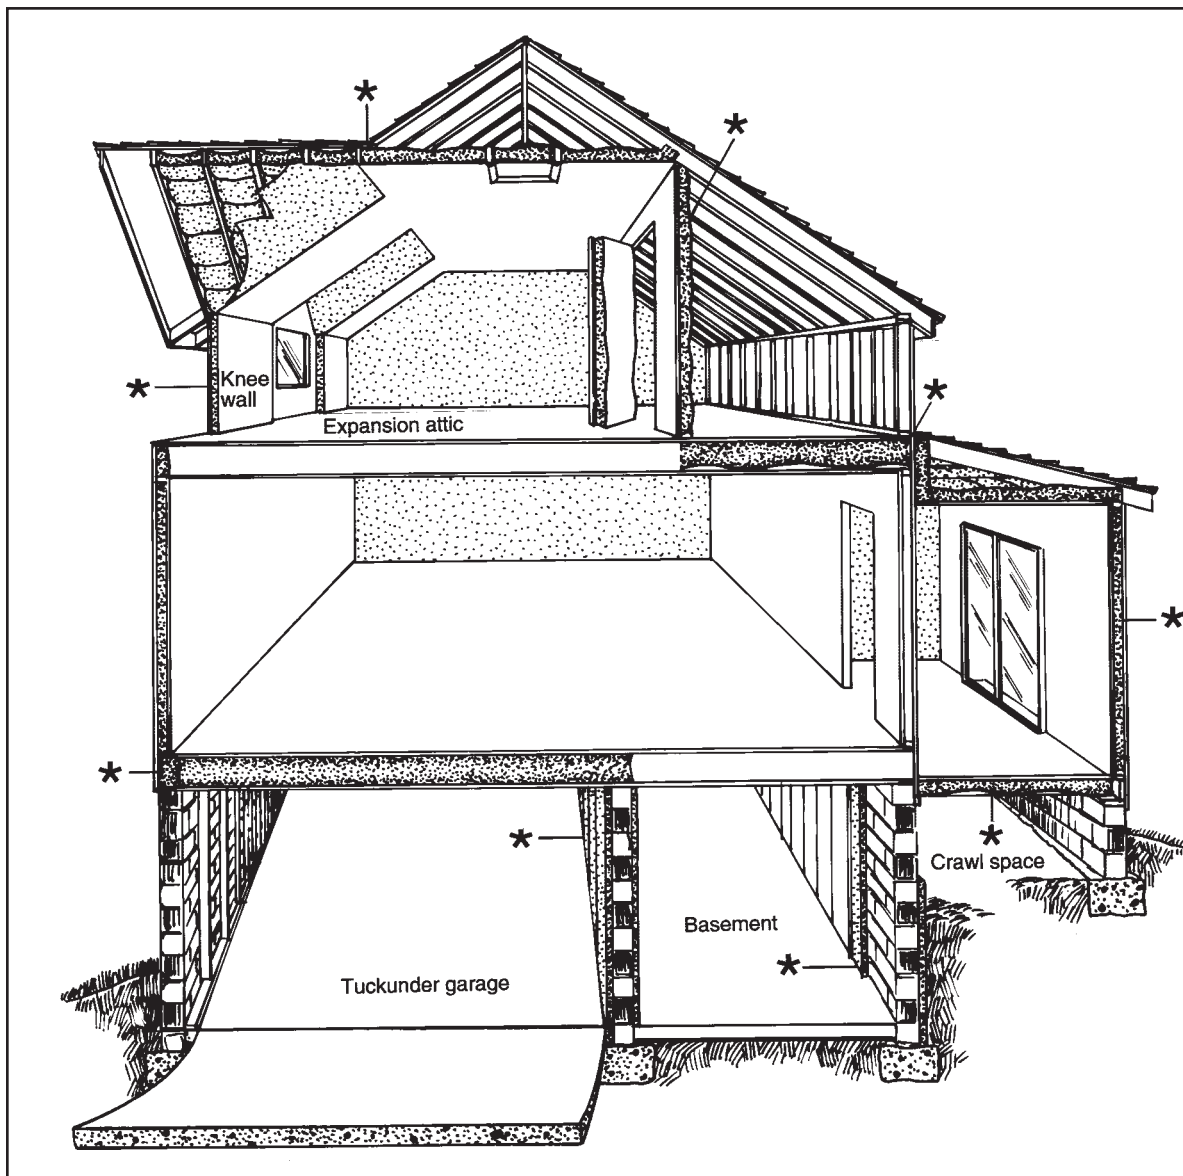

Figure 1:
How do we improve home energy efficiency? Increasing insulation is perhaps the first answer that comes to mind, but it is only part of the answer. Improving our home's energy efficiency involves an understanding of the "thermal envelope," that barrier to heat loss (and summer heat gain) that protects and separates the indoor living space from the outdoor climate. (See Figure 1.) Insulation is the heart of the thermal envelope, but it is only one part of an entire system that also includes siding, sheathing, sheetrock, and other materials that prevent heat loss through air leaks and keep wind and moisture from penetrating the thermal envelope, reducing the effectiveness of the insulation.
Figure 1 shows a home and indicates where insulation would be placed to create a barrier to heat loss.
Checking current insulation level. To determine if you need more insulation, you must first find out how much insulation you have. One way to do this is to check for yourself. Look at Figure 1. You will want to see if you have insulation (and how much) in these key locations - the basement walls, exterior walls, floors above cold spaces, and ceilings below cold spaces. In unfinished areas such as attics, where structural frame elements are exposed, you can see the type of insulation and measure its thickness.
In unfinished attics, insulation should be put between the floor joists to seal off living spaces below. In finished attics with or without dormers, insulation should go between the studs of knee walls, between the studs and rafters of exterior walls, and in ceilings with cold spaces above (Figure 1).
**Crawl spaces.** Often one or more rooms – in some cases the whole house – will not rest on a basement foundation but have only a crawl space underneath. Any part of the house that is heated should be included in the thermal envelope and should be separated from unheated space by an insulation barrier (see Figure 1).